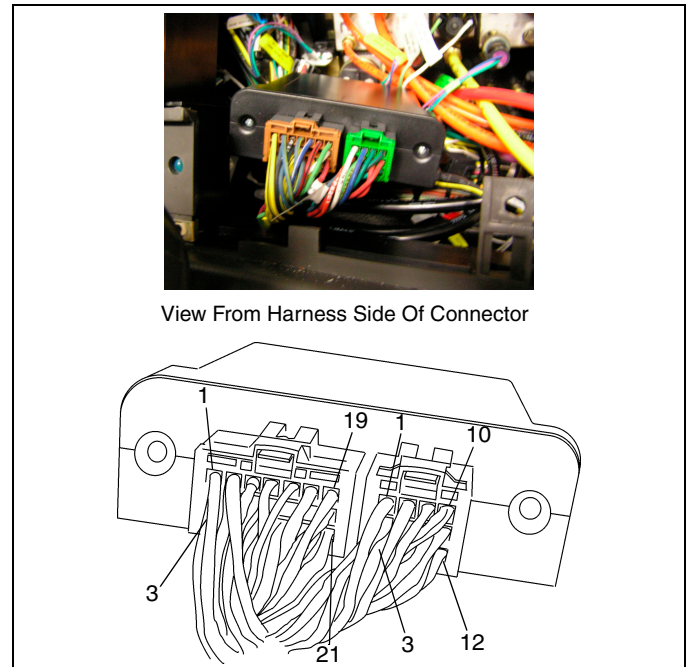

Figure 15-6
- Using a multimeter, connect the meter negative (-) lead to either Pin 20 (on 21-way harness connector) or Pin 1 (on 12-way harness connector). See Figure 15-6.
- Select the turn signal stalk switch position/function to be tested. At the same time, connect the multimeter positive (+) lead to the harness connector terminal pin that corresponds to the switch position selected. See Figure 15-6.